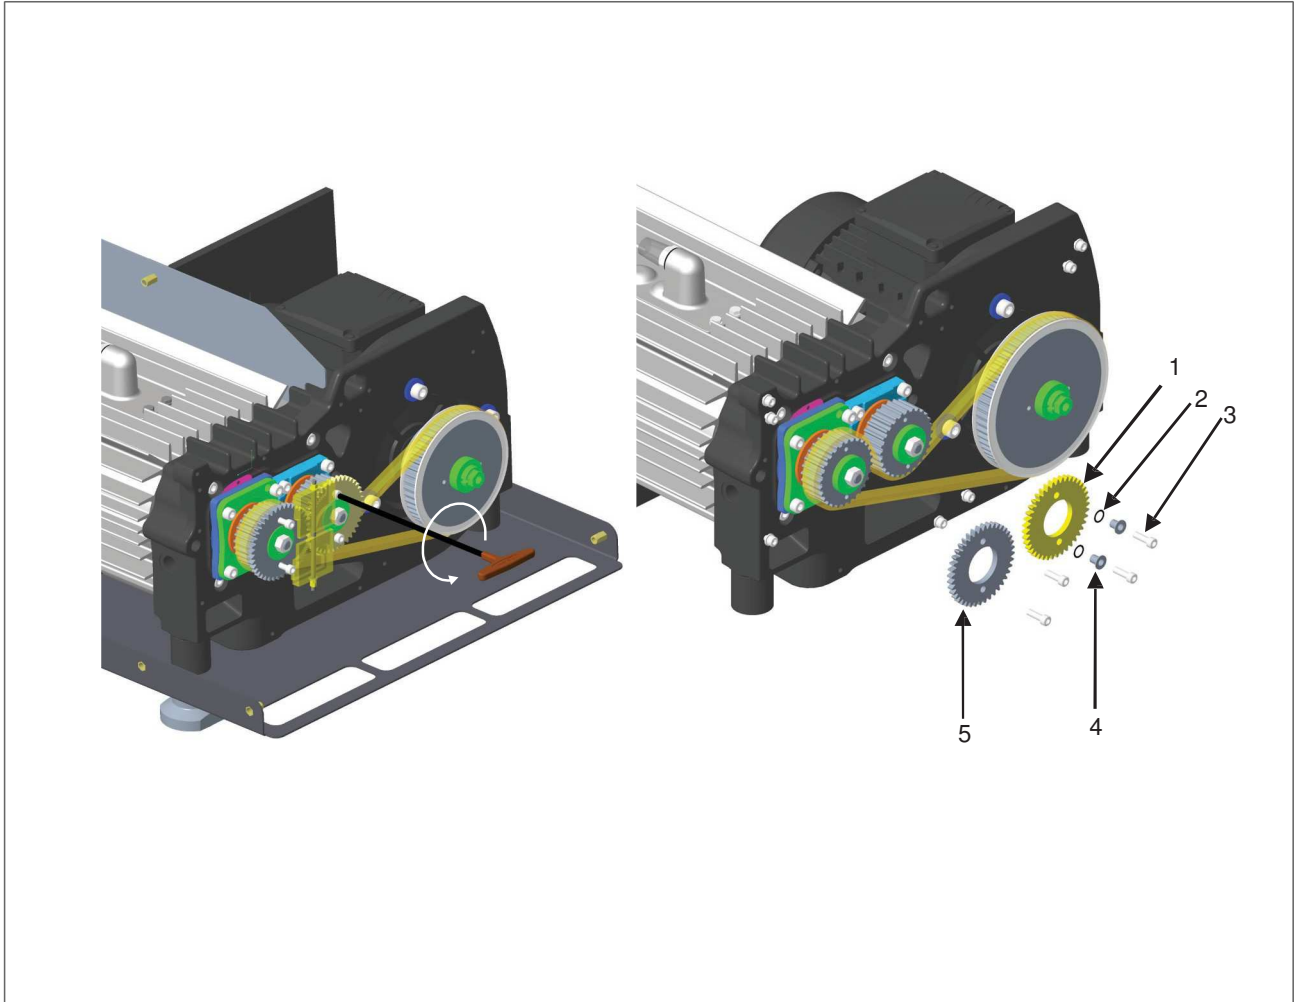

Figure 5 – Fail safe gear removal
1. Use a 17mm spanner to interlock the rotors and loosen 4x bolts (Figure 5, Item 3) by 1 rotation with 5mm Allen key and remove 4x bolts.
2. Remove the bushing (Figure 5, Item 4), o-ring (Figure 5, Item 2) and fail-safe gears (Figure 5, Item 1 & Item 5).